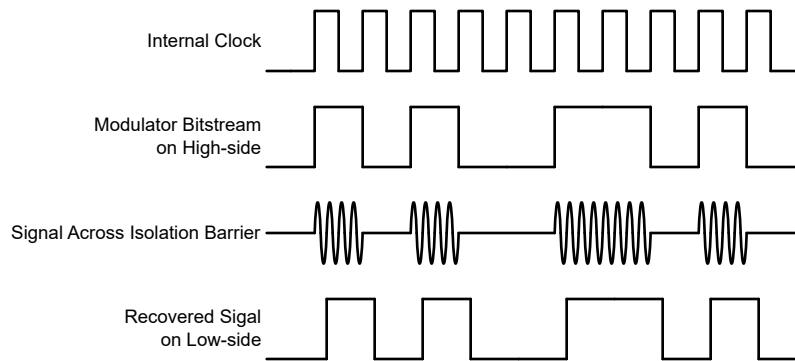

Figure 8-1. OOK-Based Modulation Scheme
The AMC1311 uses an on-off keying (OOK) modulation scheme, as shown in Figure 8-1, to transmit the modulator output bitstream across the SiO₂-based isolation barrier. The transmit driver (TX) shown in the Functional Block Diagram transmits an internally-generated, high-frequency carrier across the isolation barrier to represent a digital one and does not send a signal to represent a digital zero. The nominal frequency of the carrier used inside the AMC1311 is 480 MHz.